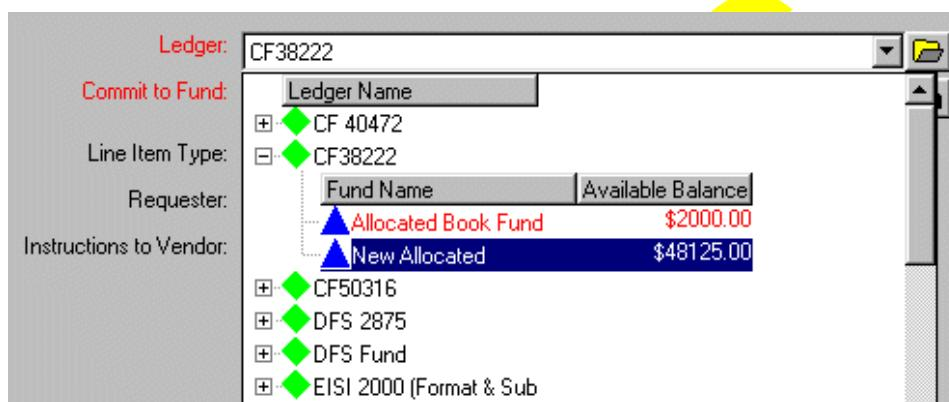

Figure 6-64. Ledger/Fund hierarchy displayed in the Ledger field
- If you want to select a fund from the ledger/fund hierarchy (Figure 6-64) rather than typing the fund code into the **Commit to Fund** field, click the **folder** button beside the **Ledger** field. This displays a hierarchy of available ledgers and funds. To aid you in selecting an appropriate fund, each fund's available balance displays within the hierarchy.